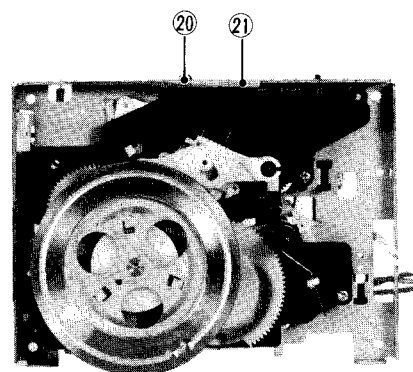

Fig. 9
9. Main base ass'y (18) and disk base unit (19) (Fig. 9, 10)